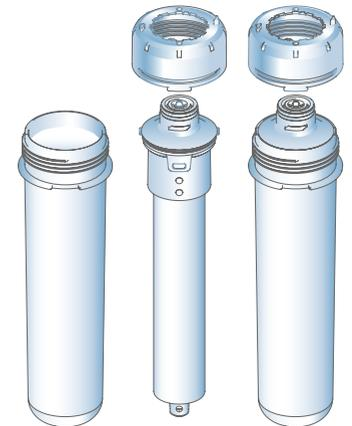

Figure 12: Unscrew the Cover of the Membrane Cartridge
*— open the housing with membrane element, remove membrane element from the housing, close the housing and install it back to the water filter. (See Figure 12).
- Press and hold the locking button of the housing and unscrew the cover. See Figure 12.